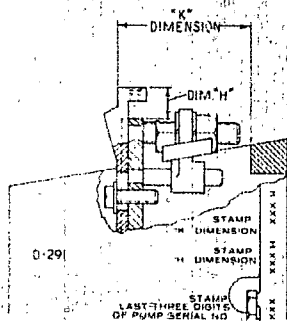

Figure 1 - "K" Dimension
- 1.1 The "K" dimension is the horizontal measurement between the upper vertical face of the adjustable stop plate and inner (machined-vertical) surface of the governor housing (see Figure 1).
- 2.8 If the obtained dimension recorded does not agree with the stamped dimension on edge of governor housing flange (see Figure 1), remove old dimension and stamp new dimension.